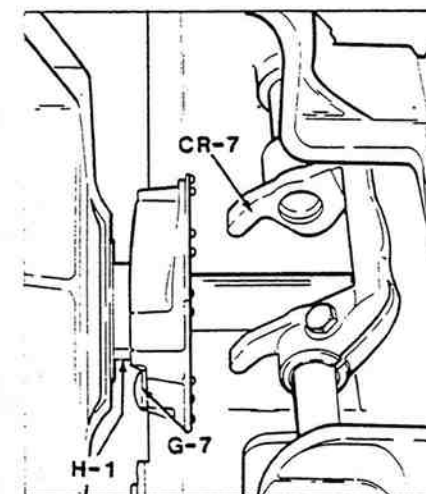

Figure 5-33. Yoke Position.
5. Rotate top of clutch release yoke (CR-7) rearward and enter the yoke on drive gear bearing cap. Yoke must be held in this position during early part of assembly. Enter main drive gear into clutch release bearing sleeve (H-1). Slide transmission forward slowly to pick up driven disc splined hubs. It may be necessary to rotate companion flange slowly to align the splines of drive gear and clutch discs (figure 5-33).